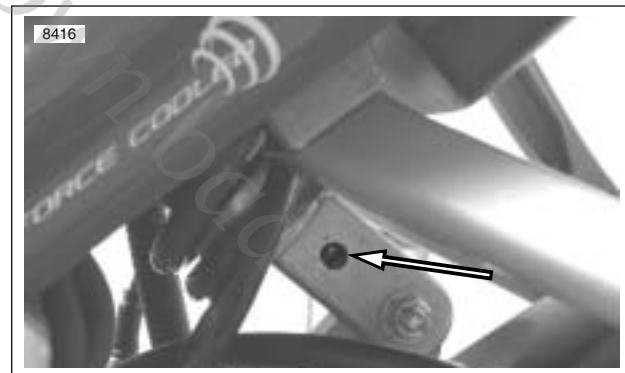

Figure 1-32. Rear Shock Rebound Adjustment
1. See Figure 1-32. Using a screwdriver, turn the slotted dial clockwise until it stops. This is the maximum rebound damping setting.